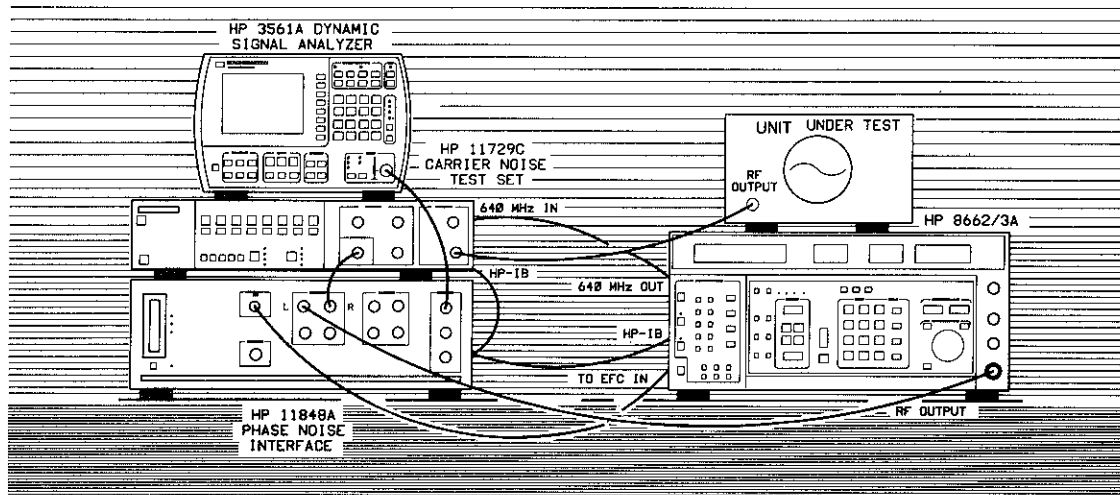

Figure 3-19. Setup Diagram for Microwave Source Measurement Example.
2. When the Connect Diagram appears on the display, connect the signal paths as shown. (Figure 3-19 also shows the cable connections for this measurement.) Table 3-13 provides setup considerations that will help you ensure that your measurement results are valid.